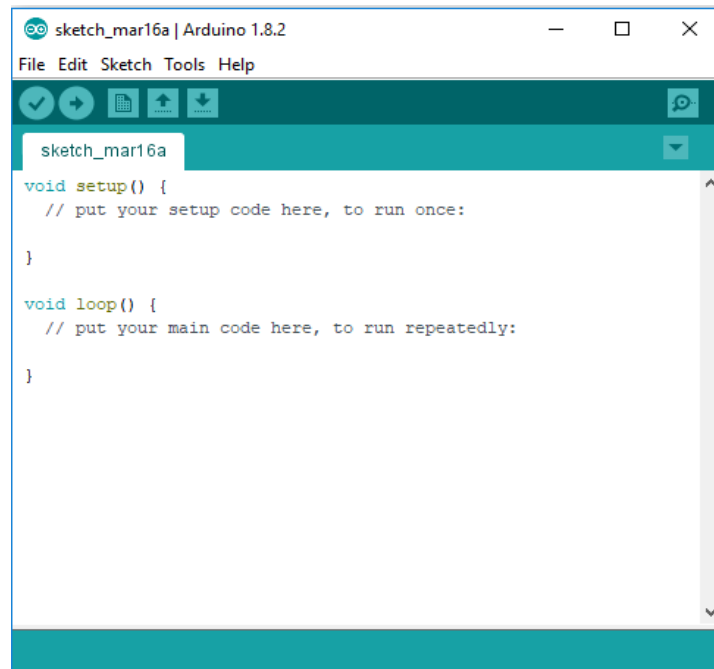

Fig. 10 IDE Environment (text editor)
1. Open the Arduino Uno IDE 2.3.2 (version may be updated automatically on your computer) and a blank sketch will open. The window as in Fig. 10 will come up on your PC:
2. **To do Assembly Experiments based on programs of Parts 1 and 2:** Write the program by copying the codes given below boxes in sequences on the blank sketch of Fig. 10 for the LED blink and control by using assembly language programs.
3. **To do Interrupts Experiments based on programs of Parts 3 and 4:** Write the program by copying the codes given below boxes in sequences on the blank sketch of Fig. 10 for the LED blink and control by using Interrupts.